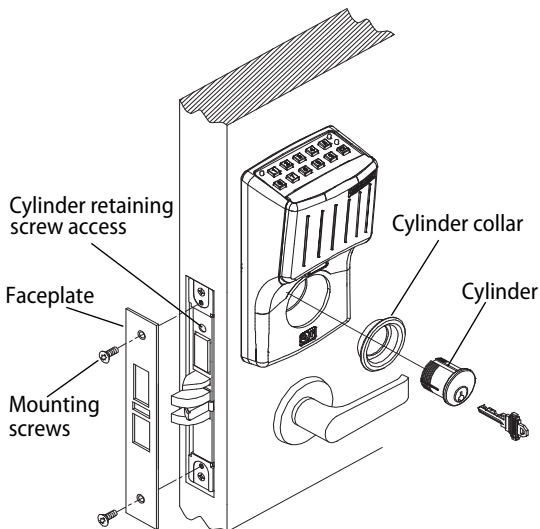

Figure 8 Installing the standard cylinder
- 3 Thread the cylinder into the mortise case until the cylinder is almost flush against the collar. Position the cylinder core in the 6 o'clock position. See Figure 8.
- 4 With the cylinder vertical as in Figure 8, tighten the cylinder retaining screw.